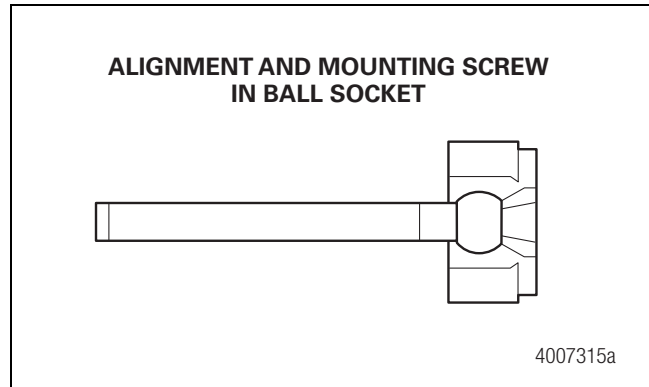

Figure 3.3
- B. Make sure all three ball socket clips and alignment screws are seated correctly. No motion should occur between the bracket and the radar sensor if the screw is correctly seated in the ball socket. Figure 3.3.